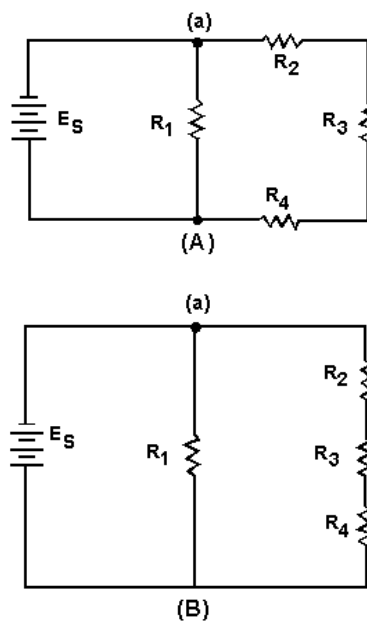

Figure 3-57.—Redrawing a simple series-parallel circuit.
While these circuits may appear to be different, the two drawings actually represent the same circuit. The drawing in figure 3-56(B) is the familiar box-like structure and may be easier to work with. Figure 3-57(A) is a schematic of a circuit shown in a box-like structure, but may be misleading. This circuit in reality is a series-parallel circuit that may be redrawn as shown in figure 3-57(B). The drawing in part (B) of the figure is a simpler representation of the original circuit and could be reduced to just two resistors in parallel.